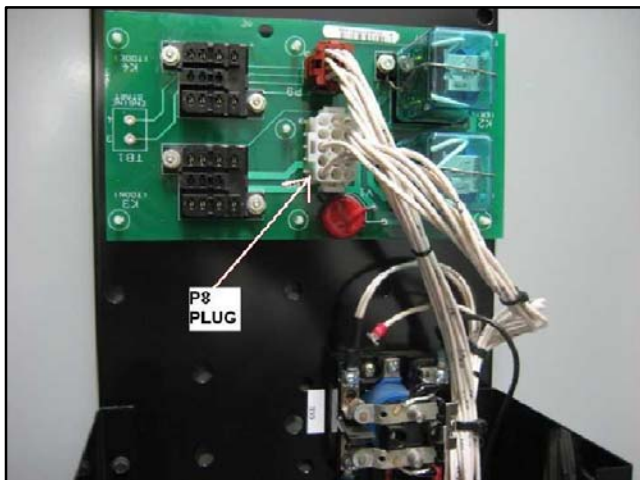

Figure 41 Disconnect Plug P8
32. Disconnect plug P8 from the upper board. See Figure 41.